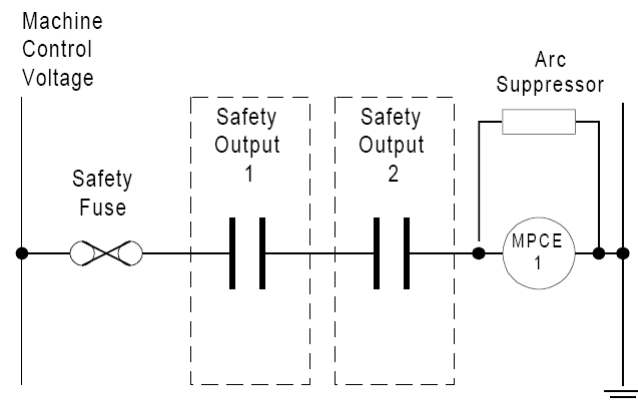

Figure 1 - Interfacing a Machine with 1 MPCE
• **Normal Risk Machine** - These usually have a single MPCE. In this case, both normally-open safety outputs should be used together, as shown in Figure 1.
To protect the contacts of the safety output relays from the effects of switching inductive loads, an appropriately rated power factor correction device must be installed for the MPCE coils. Figures 1 and 2 show 'Arc Suppressors' used for this purpose. They must not be fitted across the safety relay contacts. Arc Suppressors are user-supplied.